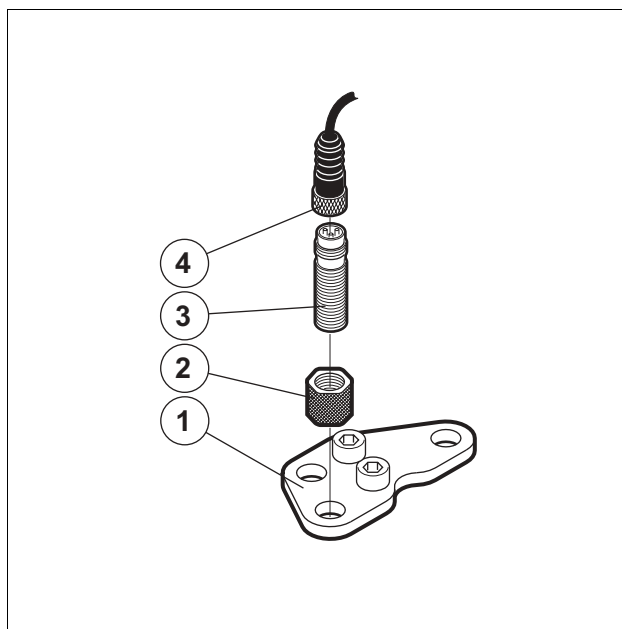

Fig. 43 Adjusting Sensors
5. Lock the sensor with the nut(2). See Fig. 43.